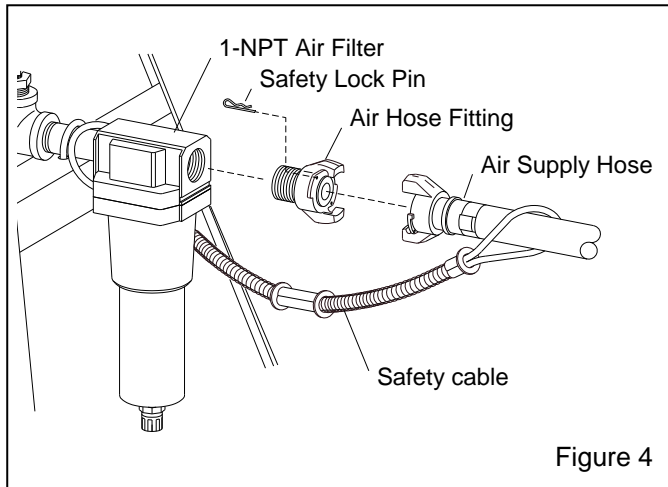

Figure 4
**2.1.3** Apply thread sealant to the male threads of an air fitting that is compatible with the air supply hose fitting, as noted in Paragraph 2.1.2, and install it onto the 1-NPT air filter, as shown in Figure 4. Note that the style of connection shown is for reference only.